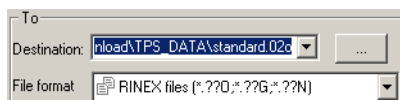

Figure D-25. Destination for Converted File
- Click **Select**. The full path of the file displays in the *Destination* field (Figure D-25).